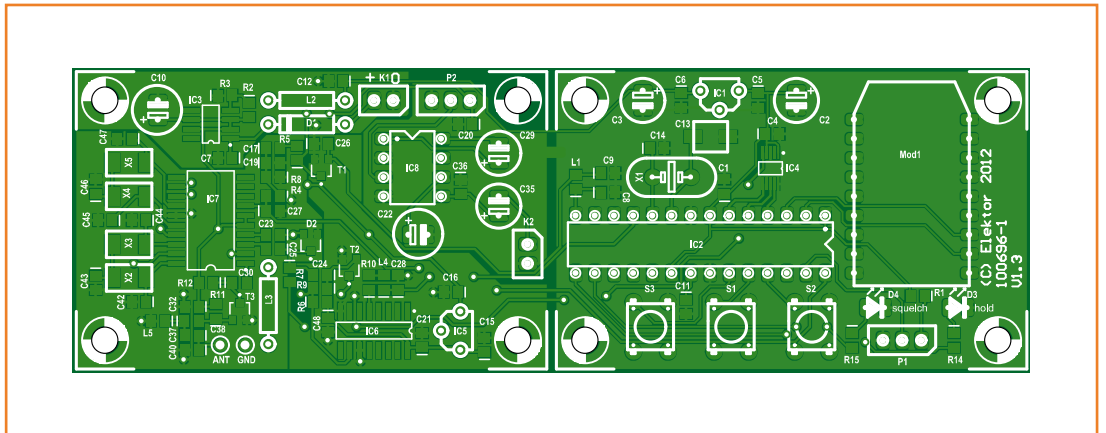

Figure 2.
**Figure 2** shows the PCB layout designed for the aviation scanner. It is divided into an analog section and a digital section, which can be separated if necessary, depending on how you fit them in an enclosure. If you separate the two sections, you will have to join them together with a few wires (five wire links plus a ground line between the two sections).